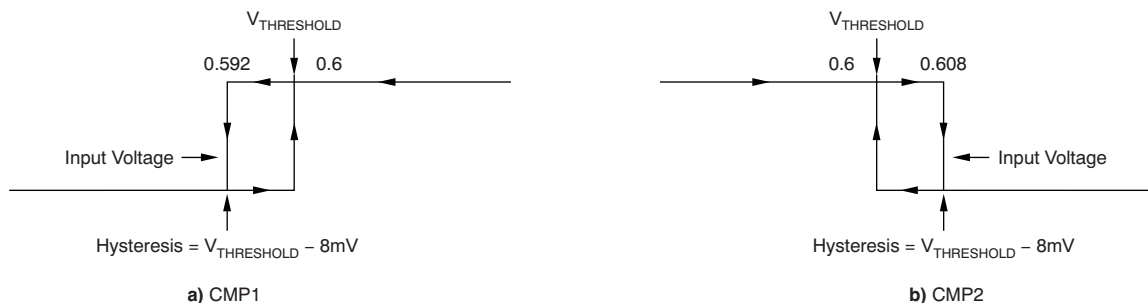

Figure 1. Comparator Hysteresis
- (1) Hysteresis refers to the threshold (the threshold specification applies to a rising edge of a noninverting input) of a falling edge on the noninverting input of the comparator; refer to Figure 1.
- (2) Specified by design; not production tested.
- (3) See the Comparator Maximum Input Voltage Range section.
- (4) The comparator response time specified is the interval between the input step function and the instant when the output crosses 1.4 V.
- (5) The CMP1 RESET input has an internal 2 M Ω (typical) pull-down. Leaving the CMP1 RESET open results in a LOW state, with transparent comparator operation.
- (6) The Comparator 2 delay applies to both rising and falling edges of the comparator output.